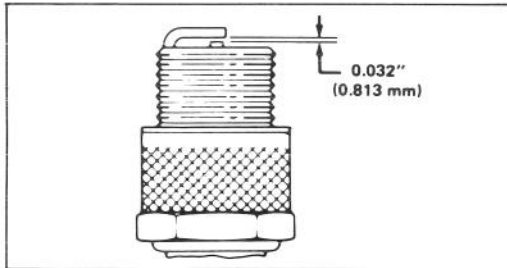

Figure 16
3. Set air gap at 0.032" (0.813 mm) (Fig. 16). Install correctly gapped spark plug and gasket seal. Tighten plug firmly to 15 ft-lb (20.4 N-m).